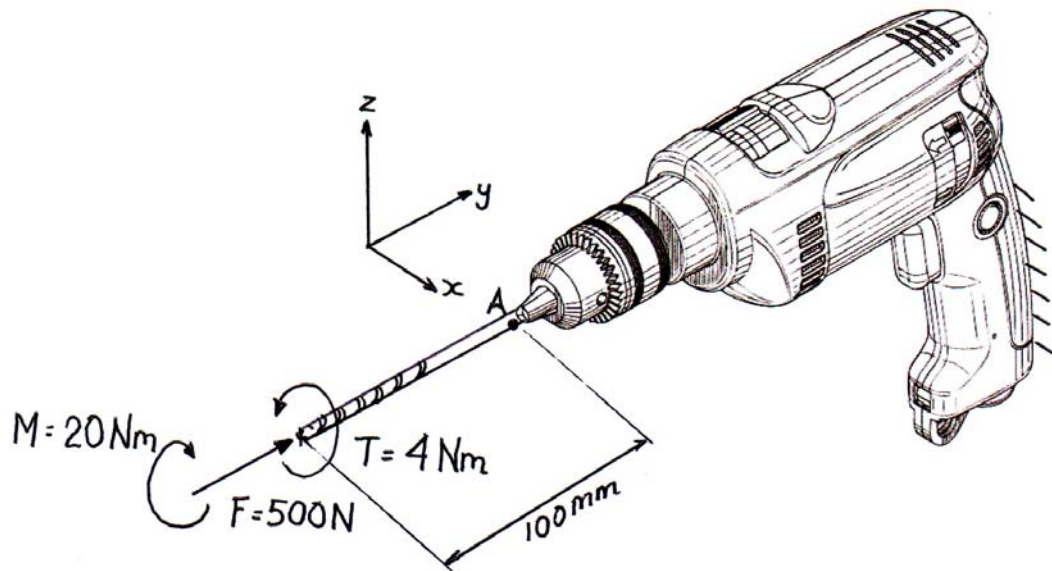

Figure Q5
- Q5.** An electric drill is shown in Figure Q5. The drill bit is subjected to a compressive axial force of 500 N, an end bending moment of 20 Nm (in the y-z plane) and a torque of 4 Nm (in the x-z plane). The length of the drill from the bit end to the support at the shank is 100 mm. Based on the stress level at point A determine the suitable diameter of the drill bit made of solid high speed steel if the allowable normal stress is 200 MPa and the allowable shear stress is limited to 60 MPa.